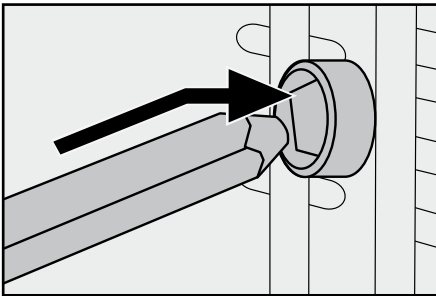

Fig. 1: Push the rotisserie **16** into the drive **1**.
- First push the end of the rotisserie **16** without the notch into the drive **1** (Figure 1):